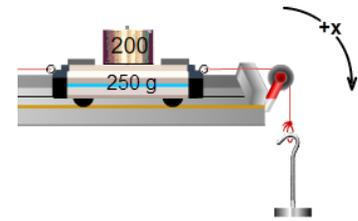

Figure 7 – the “x-direction”
2. This also includes direction, if you don't mind a minor 90° bend in the middle. Motion left and right by the cart is the same as motion up and down by the hanger. The pulley is just redirecting it. **We'll work with the bendy direction and say that the positive direction is as shown in Figure 7. For the cart, the +x direction is to the right. For the hanger, it's downward.**